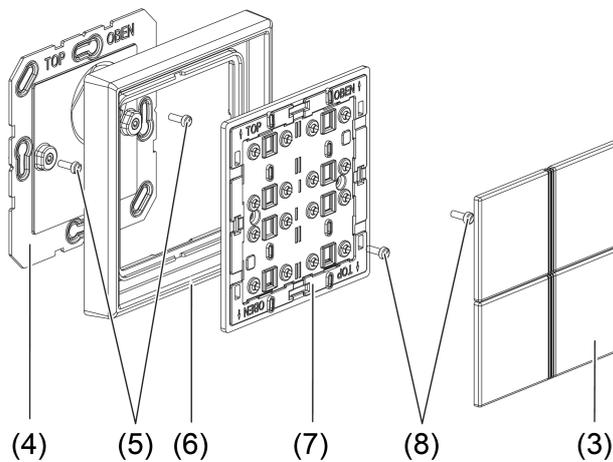

Figure 2
- Carefully remove buttons (3) from wall transmitter (figure 2).
- Unscrew wall transmitter from the base plate (4).